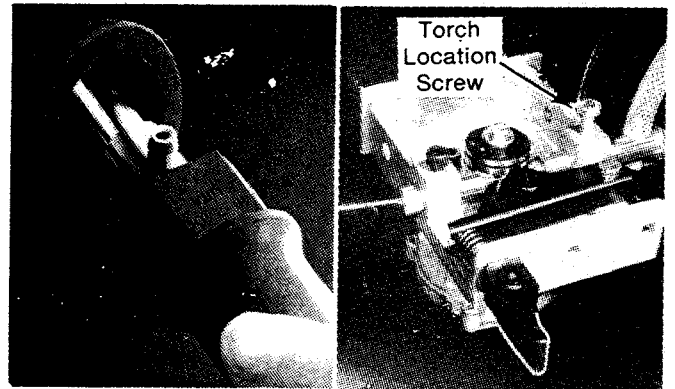
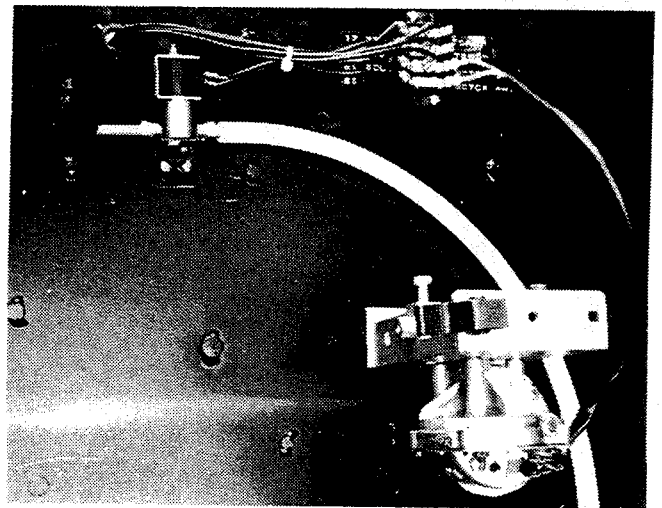

Figure 3
Figure 4
4. Place the torch switch wires through receptacle grommet at front of welder. Guide boss of torch into the wire drive casting while inserting torch through front. (See Figure 3) Finger tighten torch location screw after boss seats. Slip gas supply hose onto torch inlet nipple. Connect trigger control leads to terminal block located above wire drive unit. See Figure 4